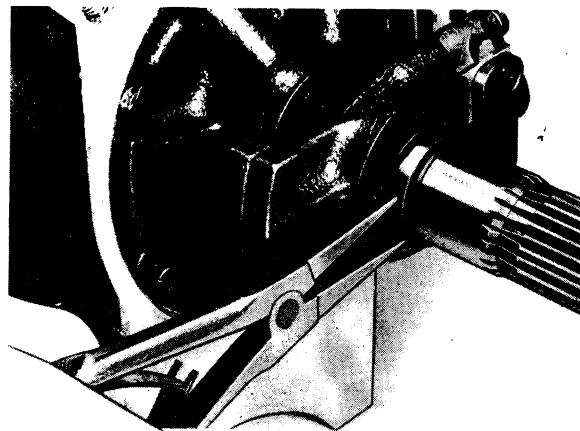

Fig. 4-86. Withdrawing governor
33. Remove the snap ring, see Fig. 4-86, and withdrawn the governor. Take care of the detent ball.